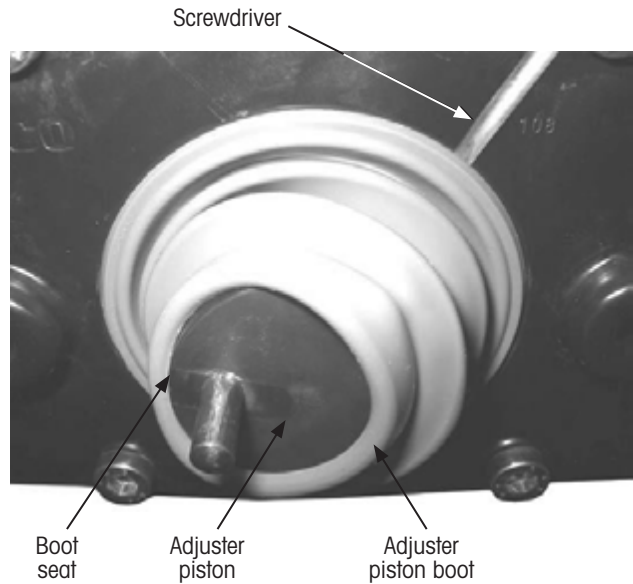

Figure 72: Removing adjuster piston boot
- Pull** the adjuster piston boot from the boot seat of the adjuster piston (Figure 72).
- Position** the screwdriver between the adjuster piston boot and cover (Figure 72).